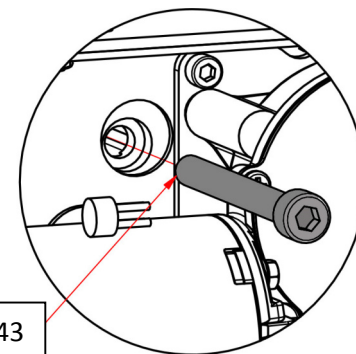

Figure 11, bolt mount Lifting Tape
11. Push the loop through the bolt recess and apply **Loctite 243** (*Figure 11*) on the wire of the bolt, push it through the loop and tighten it.